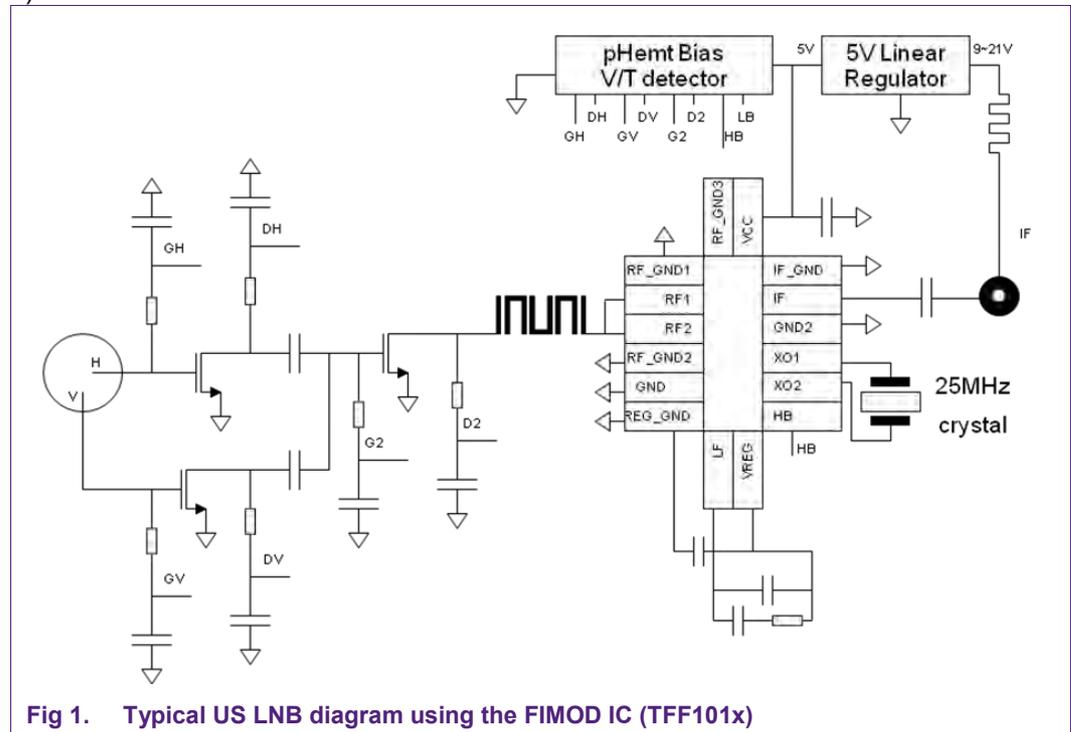

Fig 1. Typical US LNB diagram using the FIMOD IC (TFF101x)
TFF101x integrates most parts of Ku Band Universal Single (US) LNB, including pre-amplifier, mixer, buffer amplifier and PLL synthesizer, and the LO frequency (9.75GHz or 10.6GHz) can be easily switched by a logical level, so for a full US LNB, only an LNA, a 25MHz crystal and a biasing ICs are needed as the external circuits (As shown in Figure 1).